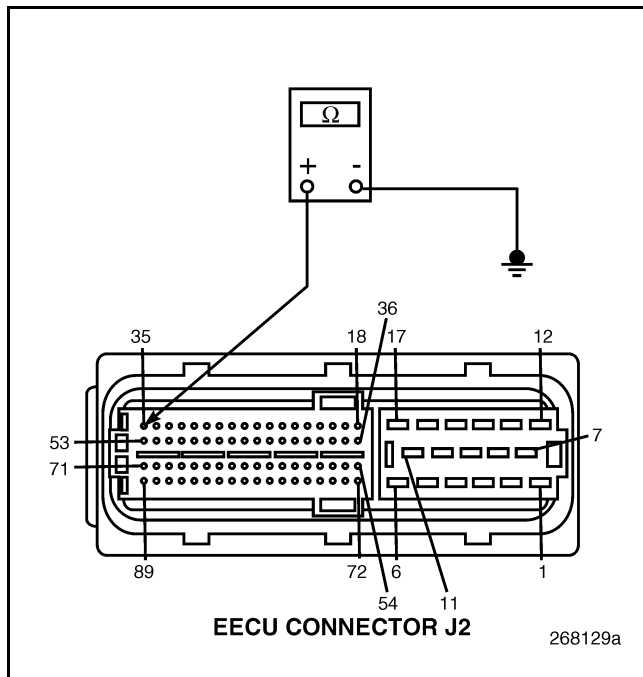

Figure 838
4. Check for continuity between EECU harness connector J2, pin 35 and a good ground (see Figure 838).